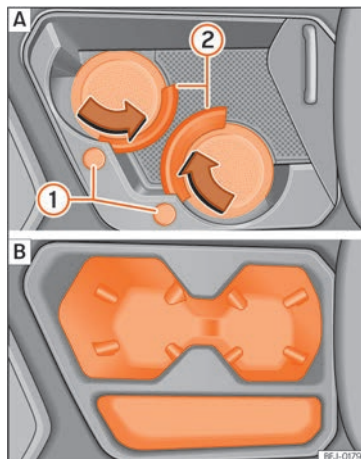

Fig. 139 In the front part of the centre console: [A] cup holder (variant 1); [B] cup holder (variant 2).
Depending on the features, there are two drink holders in the front part of the centre console » **Fig. 139**.
To adapt the drink holder to the size of the container, press the corresponding button » **Fig. 139** ①. The fastening ring ② opens.